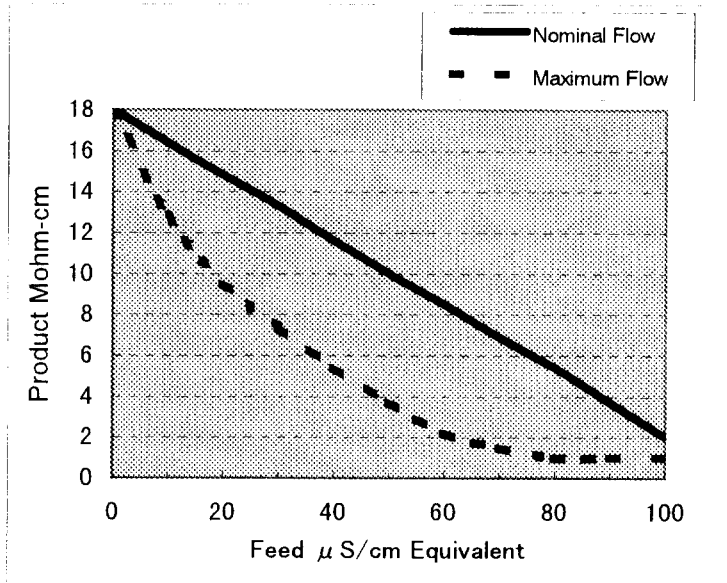

Figure 5 CEDI H-Series System Performance
- Figure 5 shows an example of product water quality by CEDI.